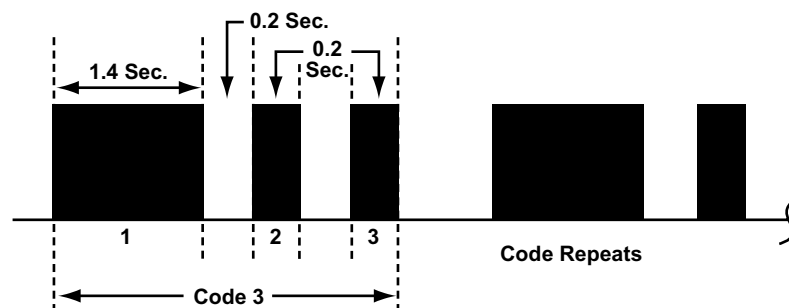

Figure 8-32 Honda ABS Code Type 05a
- Type 05a, see Figure 8-32 and Table 8-9 on page 78